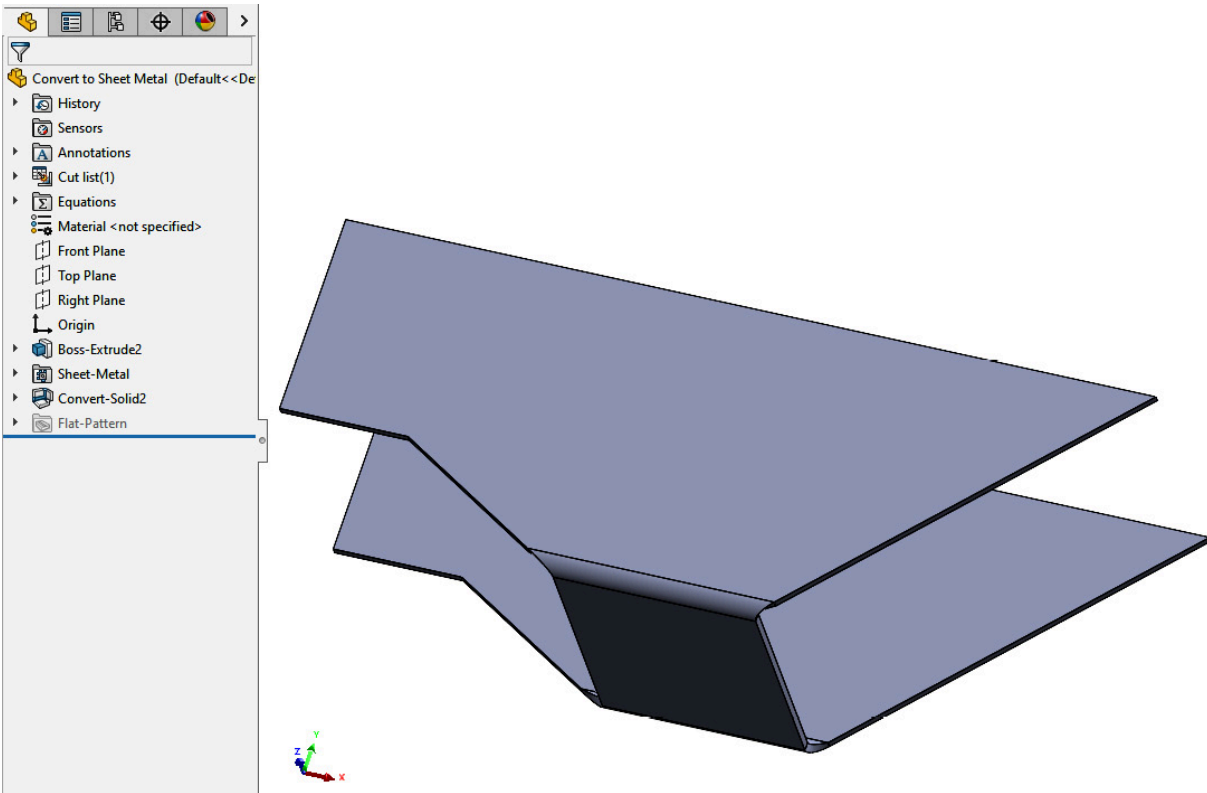

Figure 12.6: The converted part
10. We can see that the solid has been converted to a Sheet Metal *part* with a thickness of **2mm** that we set in *Step 4*. 2mm bends have been added to the two selected edges. Also, note all of the faces connected to edges that were not selected have been removed from the model (*Figure 12.6*).